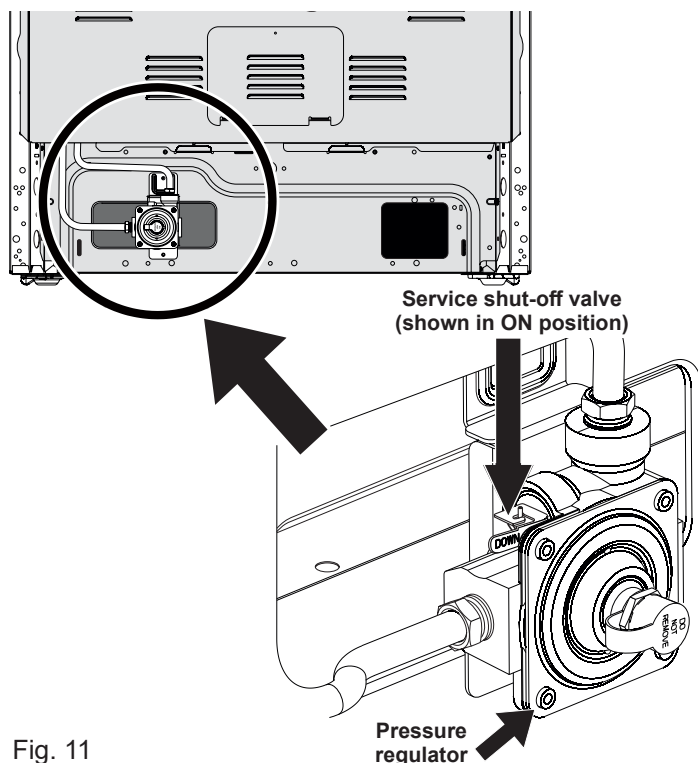

Fig. 11
- f. Make sure the service shut-off valve on pressure regulator is set to the ON position (See Fig. 11).